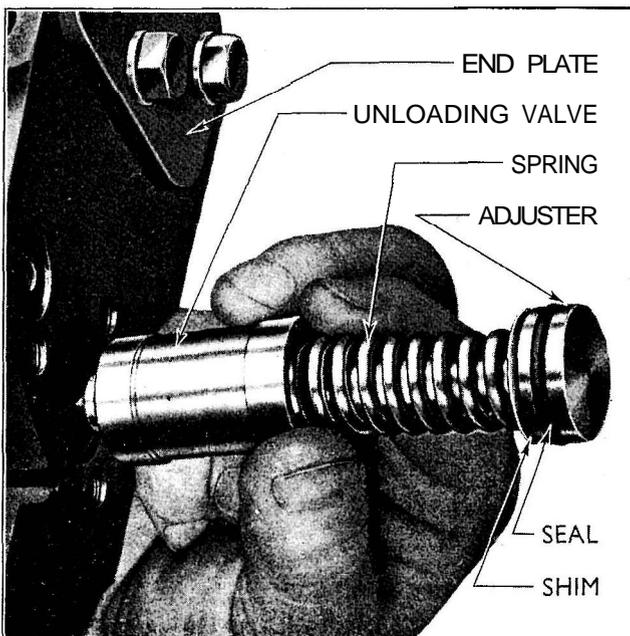

Fig. 185
- 2 Remove the gasket, adjuster, spring and unloading valve (see Fig. 185).
- 2 Replace the valve, spring and adjuster with appropriate number of shims, gasket and cover plate (Fig. 185) and secure with the three bolts. Test as described above.
3 The head of the adjuster has a tapped hole, and is removed by inserting a screw ($\frac{1}{16}$ in. dia.) and pulling the unloading valve adjuster, shims, valve and spring out of the housing. The number and thickness of shims should be checked since these control the relief pressure of the valve (see Fig. 185).